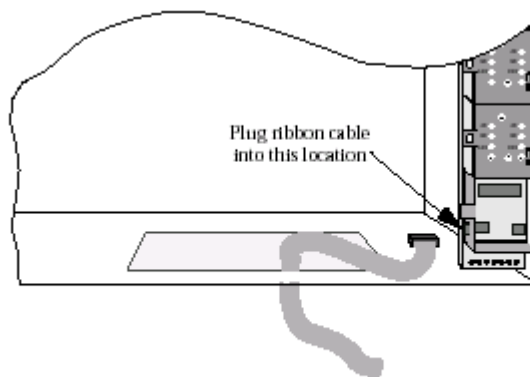

Figure 10. Power Supply Bus Cable
3. Attach the loose end of the ribbon cable to the bottom portion of motherboard in the upper frame. The cable plugs in behind the last power supply location of the upper frame. Refer to Figure 10 for the location.